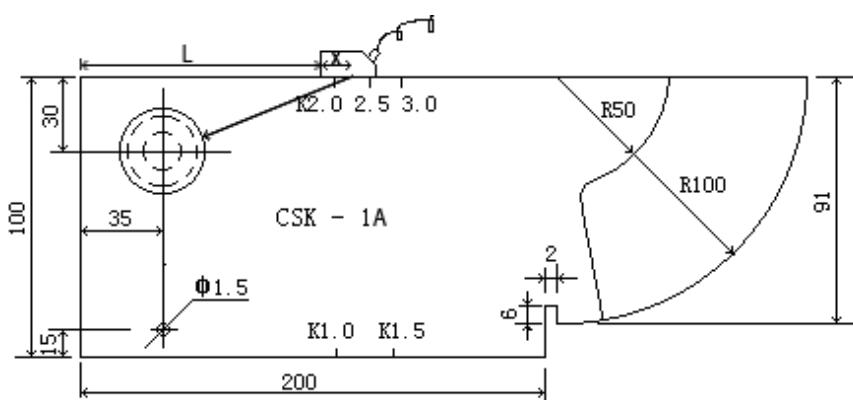
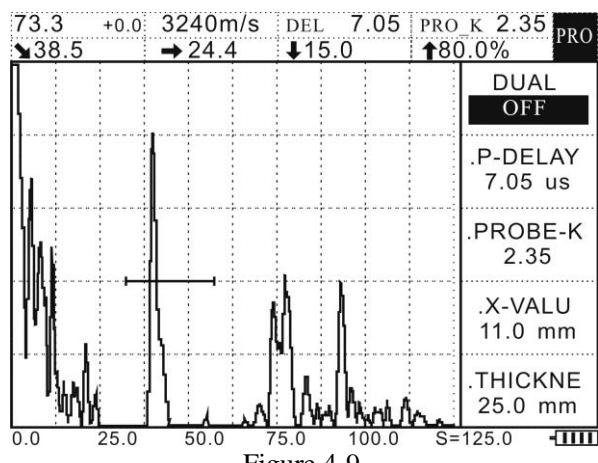

Figure 4-7
Figure 4-9
5. Calibrate the probe K value (angle): couple the probe to the CSK-IA test block and move it back and forth, as shown in Figure 4-7, till the reflection echo of the circle of φ50mm reaches the highest level, use a steel ruler to measure L, and calculate K value according to $k=(L+X-35)/30$. As shown in Figure 4-9, press **PROBE** to enter the probe menu, press **▲** (up) or **▼** (down) to select the probe K value submenu, then press **◀** (left) or **▶** (right) to set the value as the K value calculated. As shown in Figure 4-9, or direct press **PEAK MEM** to calibrate the K value automatically.